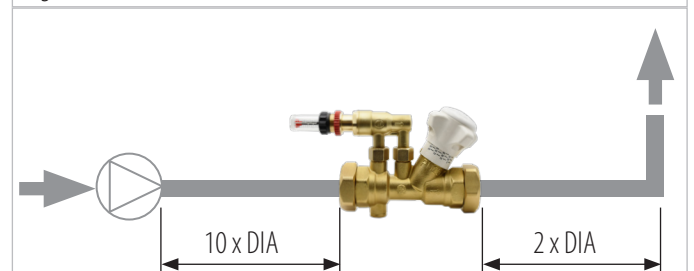

Figure 2
- If there is a pump immediately upstream the valve, the minimum recommended length of the straight pipe is 10 times the nominal diameter before the valve and 2 times the pipe diameter after the valve. (Figure 2)